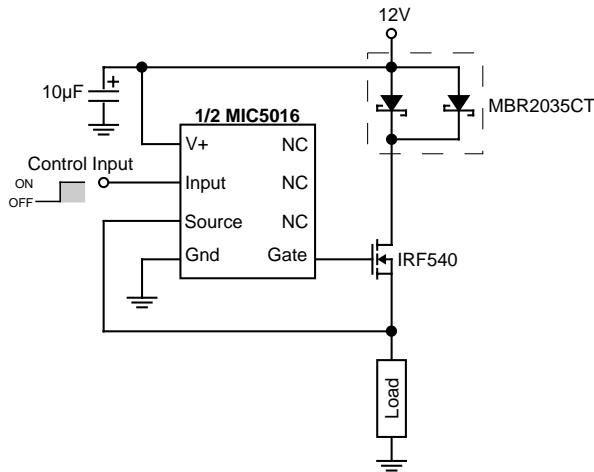

Figure 12: High Side Driver With Load Protection
**High Side Driver With Load Protection** (Figure 12) Although the MIC5016/17 devices are reverse battery protected, the load and power FET are not in a typical high side configuration. In the event of a reverse battery condition, the internal body diode of the power FET will be forward biased. This allows the reversed supply to drive the load.